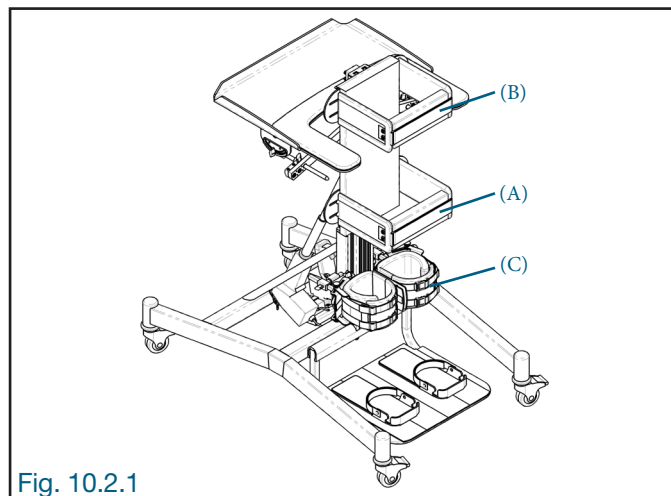

Fig. 10.2.1
10.2.1 VERTIFLEX TYPE VENTRAL (fig. 10.2.1)